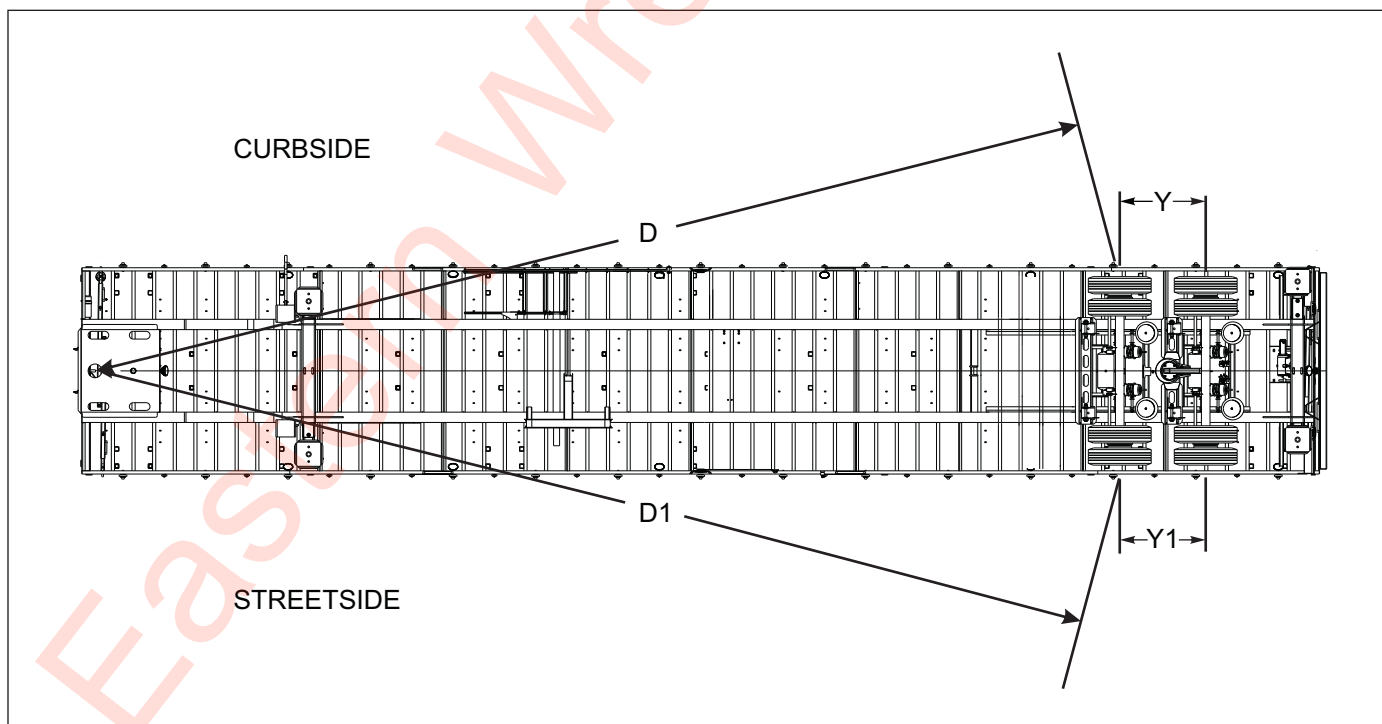

Figure 4-7: Checking Axle Alignment
4. Measure (D) from the plumb bob to the center point on one end of the axle. Record this measurement (See Figure 4-7).
5. Measure (D1) to the other end of the axle in the same manner as in Step 4. Record this measurement (See Figure 4-7).